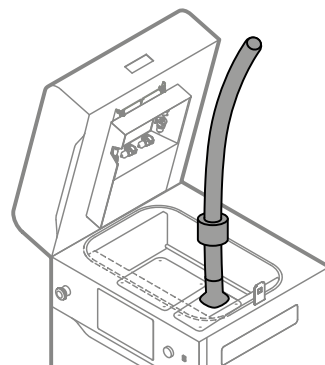

Fig. 12.25 Vacuum powder from Print Bed.
18. Vacuum powder from the Print Bed and the gap around. Use appropriate nozzles (fig. 12.25).